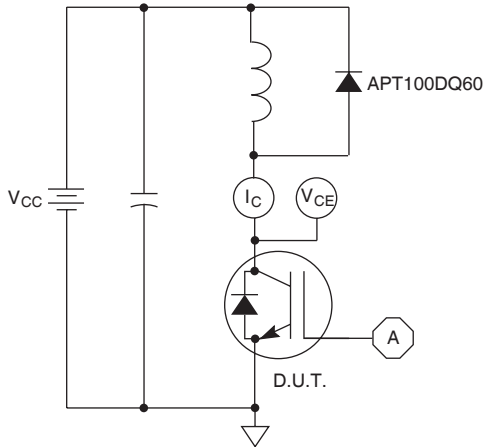

Figure 21, Inductive Switching Test Circuit
- ① Repetitive Rating: Pulse width limited by maximum junction temperature.
- ② For Combi devices, I_{ces} includes both IGBT and FRED leakages
- ③ See MIL-STD-750 Method 3471.
- ④ E_{on1} is the clamped inductive turn-on energy of the IGBT only, without the effect of a commutating diode reverse recovery current adding to the IGBT turn-on loss. Tested in inductive switching test circuit shown in figure 21, but with a Silicon Carbide diode.
- ⑤ E_{on2} is the clamped inductive turn-on energy that includes a commutating diode reverse recovery current in the IGBT turn-on switching loss. (See Figures 21, 22.)
- ⑥ E_{off} is the clamped inductive turn-off energy measured in accordance with JEDEC standard JESD24-1. (See Figures 21, 23.)
- ⑦ R_G is external gate resistance, not including R_{G(int)} nor gate driver impedance. (MIC4452)